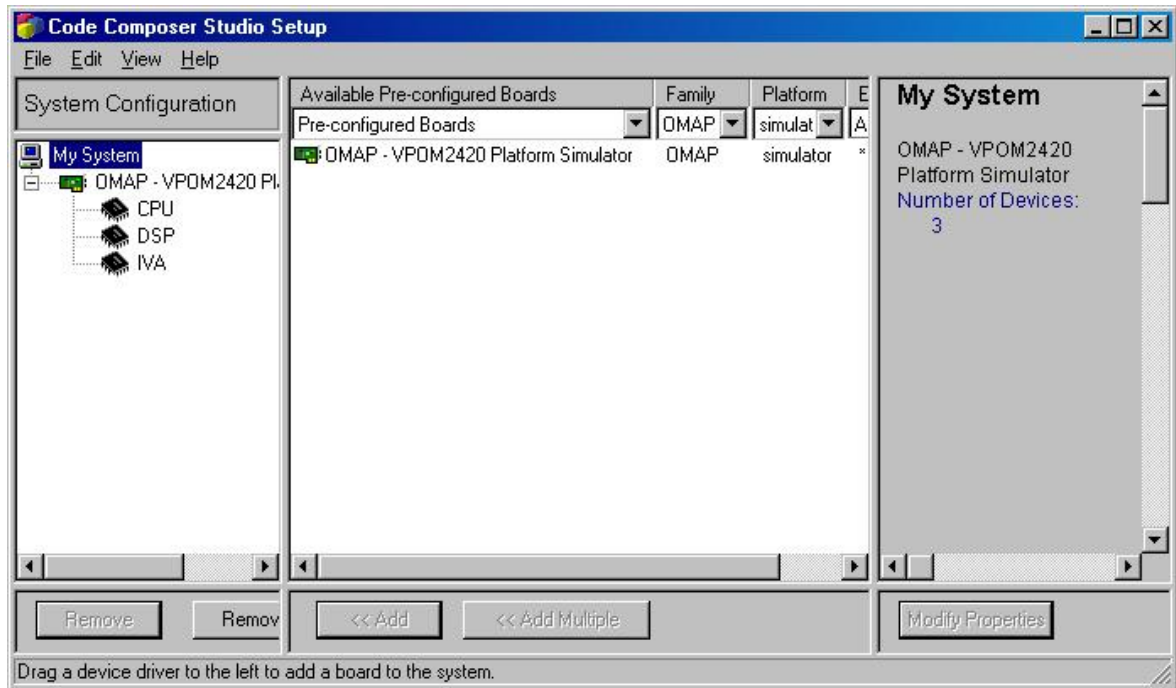

Figure 5. CCStudio Setup Import Configuration for ARM11, ARM7, and C55x
2. From the middle pane of CCSetup, select the Pre-configured Boards option. Select the OMAP family and simulator platform. Then select the configuration, OMAP-VPOM2420 Platform Simulator from the Available Pre-configured Boards column and add it to the system. Finally, save the selection. Figure 5 shows a screenshot of the setup after importing the configuration.